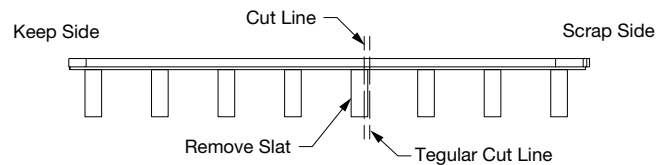

Fig 69
- a. Grille Shape Panels: Remove the entire slat (**Fig 69**).